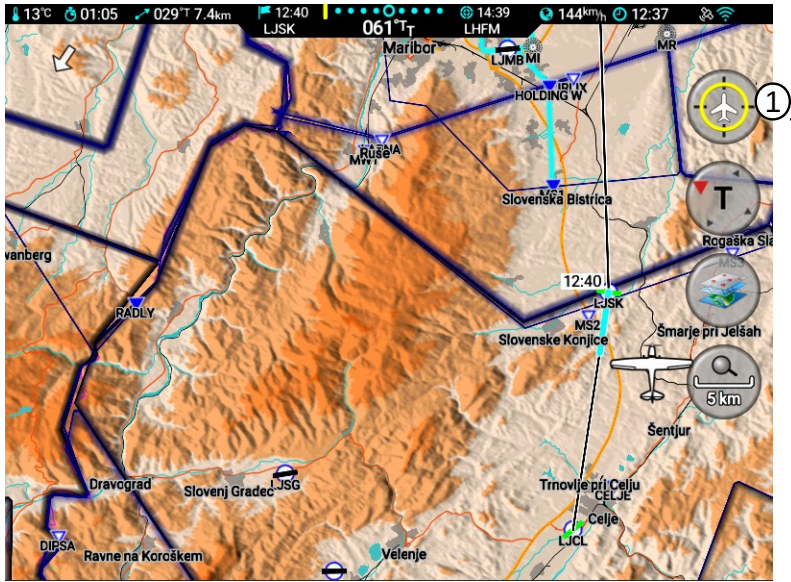

Figure 7: Illustration of the navigation screen in the pan mode.
A long-touch action on the map puts the map into pan mode. It also adds a home button symbol on the map and remove all unnecessary elements. Once the map is in the pan mode, it can be easily moved around. Figure 7 shows an example.
A touch on the home button, marked as ① on the Figure 7, brings back the standard navigation map.